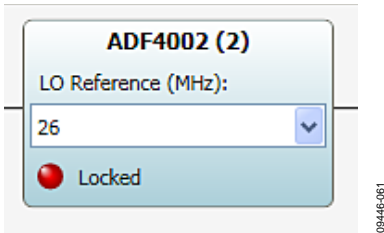

Figure 61. ADF4002 (2) Control
**ADF4002 (2) Control**
The ADF4002 (2) control, shown in Figure 61, includes a drop-down menu for the **LO Reference (MHz)**. This is chosen to indicate which VCXO is installed on the board. By default, the MSDPD Dashboard uses the 26 MHz VCXO. There is also a PLL lock indicator for the ADF4002 (2).